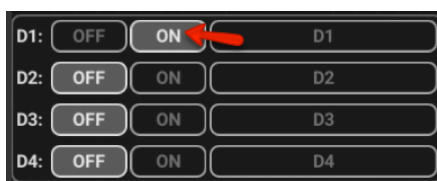

Figure 4: Digital channel one should be on, turn all others off. Check to make sure your settings match these before moving on with this exercise.
2. Open the Digital channel menu . For this exercise, Turn digital channel 1 on and 2-4 off. See figure 4: